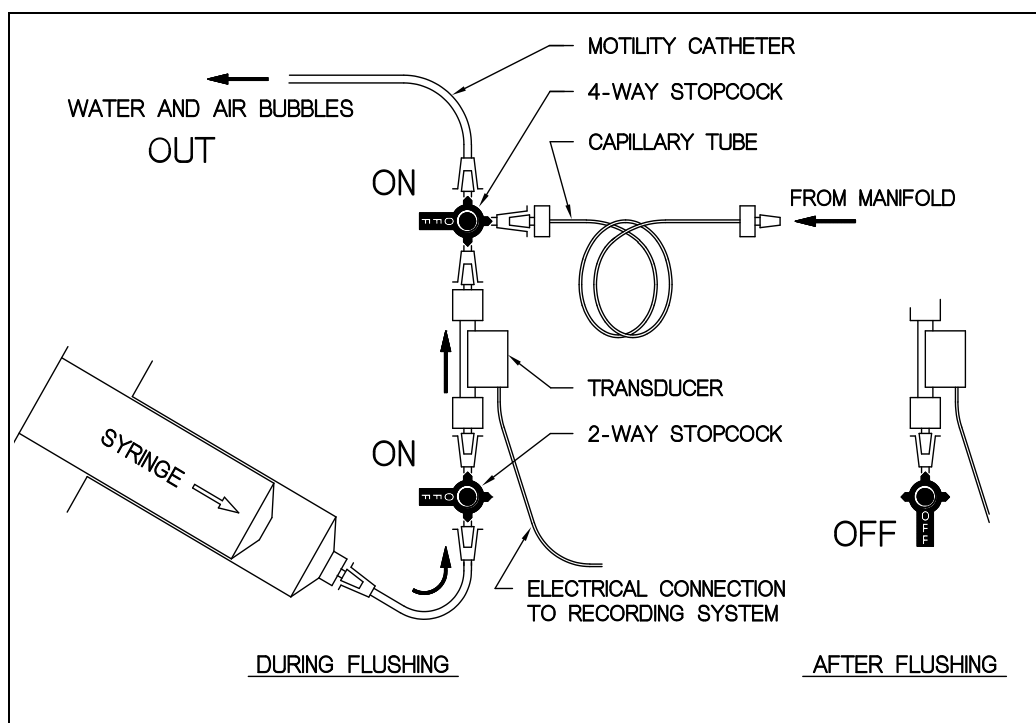

Figure 16: Purging Air from System Using a Syringe
- Attach a large syringe filled with distilled water to the bottom stopcock (Figure 16).